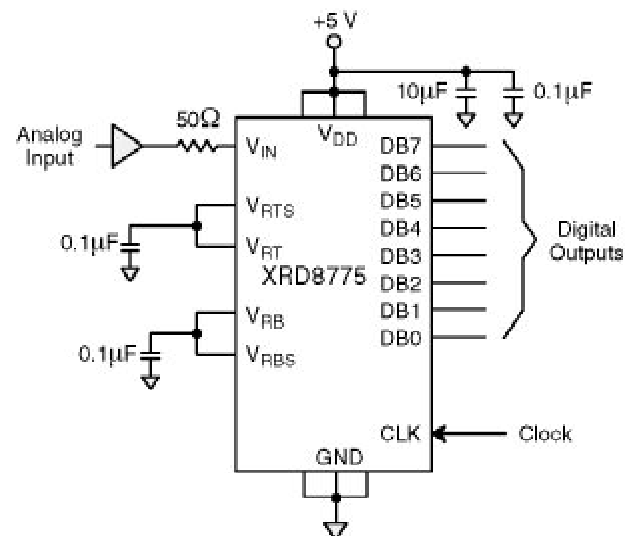

Figure 5. Typical Circuit Connections
- See  $V_{IN}$  input equivalent circuit (Figure 5). Switched capacitor analog input requires driver with low output resistance.
The reference can be biased internally by shorting  $V_{RT}$  to  $V_{RTS}$  and  $V_{RB}$  to  $V_{RBS}$ . This will generate  $0.6V$  at  $V_{RB}$  and  $2.6V$  at  $V_{RT}$  (see Figure 5.).